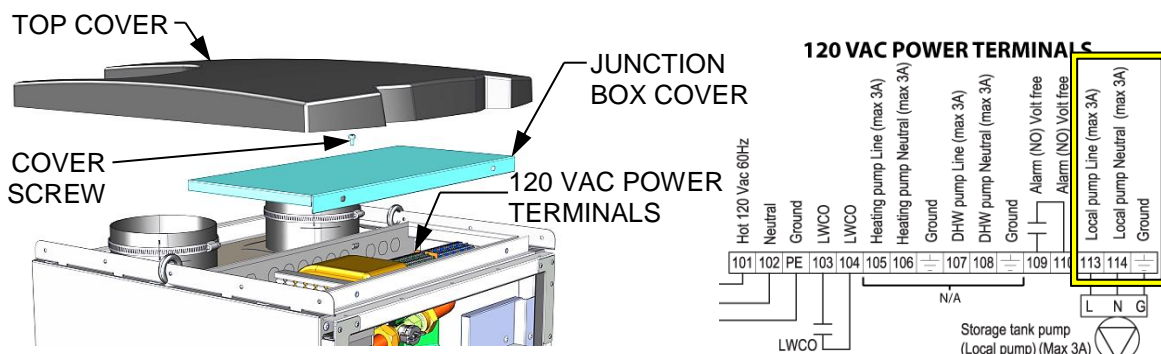

Figure 4-4: Recirculator Pump Wiring to AMR Electrical Power Terminals
- 1) Remove the unit top cover by pulling up, than access inside of electrical junction box by removing screw at rear top of junction box cover and lifting up, as shown in Figure 4-4.
- 3) Locate the left-side set of 120 VAC power terminals, as shown in Figure 4-4 or 5-2, and connect the cable leads to terminals **113**, **114** and **Ground**, and then wire the other end of the cable to the pump per the manufacturer's instructions.